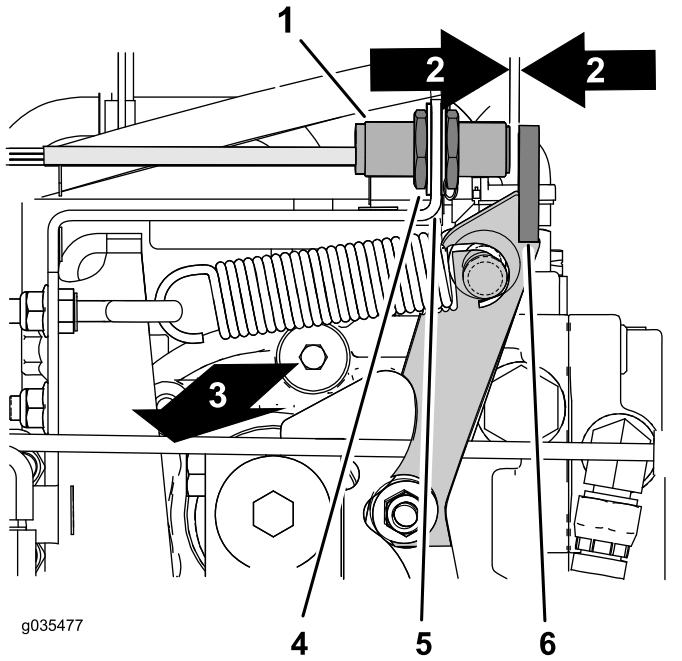

Figure 66
- A. Locate the proximity sensor at the right, top side hydraulic pump (Figure 66).
- B. Verify that the proximity sensor bracket is not bent, and that the light at the back of the sensor illuminates (Figure 66).
1. Locate the proximity sensor at the right, top side hydraulic pump (Figure 66).
2. Loosen the jam nuts at either side of the sensor bracket (Figure 66).
3. Adjust jam nuts until there is a 2.5 to 3.6 mm (0.10 to 0.14 inch) gap between the end of the proximity sensor and the flange of the neutral arm (Figure 66).
4. Tighten the jam nuts (Figure 66).